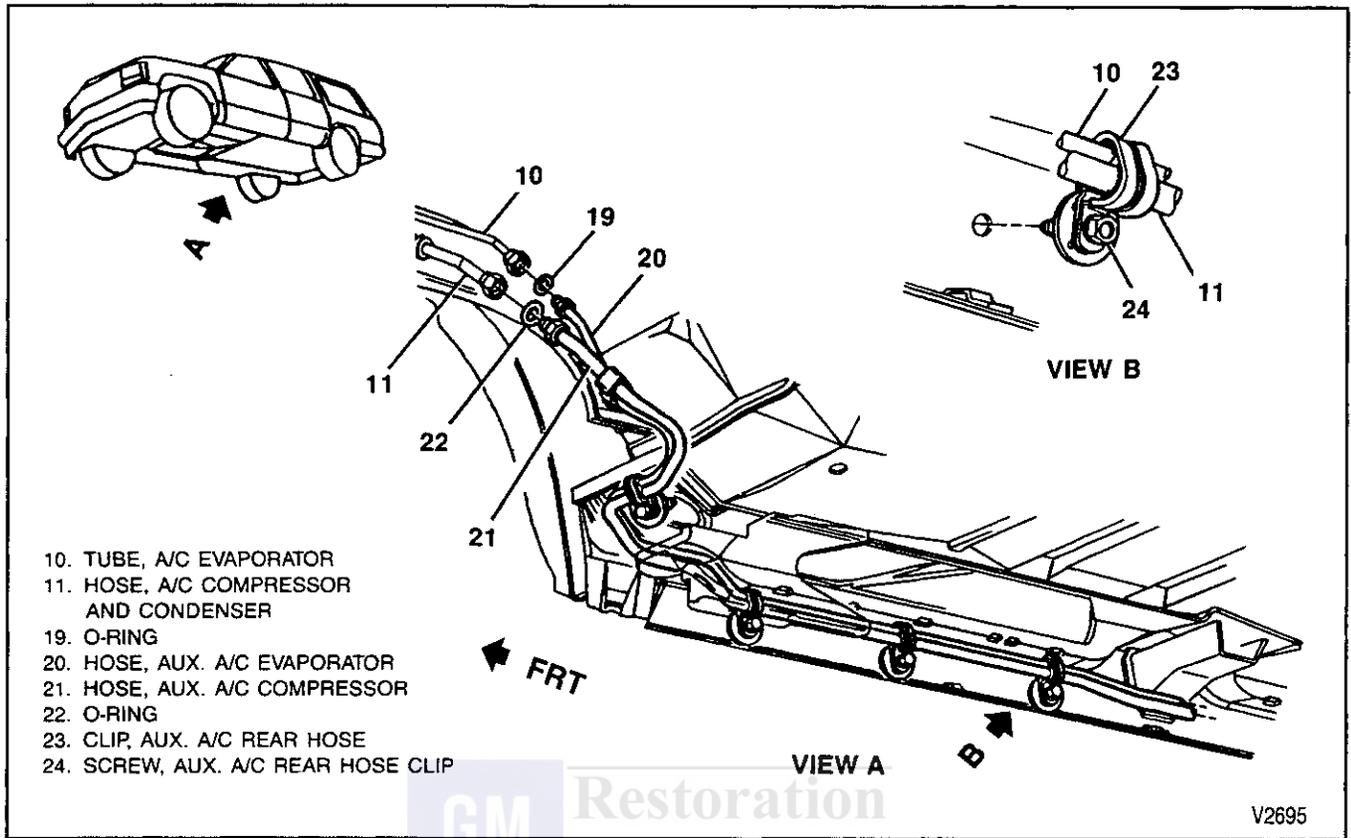

Figure 44—Auxiliary Compressor and Condenser Hose Routing
6. O-ring seal (22).
8. Auxiliary evaporator hose (20) from auxiliary evaporator (26) (figure 44).
9. O-ring seal (25).
10. Auxiliary compressor hose (21) from auxiliary evaporator (26) (figure 44).
11. O-ring seal (25).
12. Screws (24).
13. Hose clips (23).
14. Auxiliary evaporator hose (20).
15. Auxiliary compressor hose (21).
- Screws (24) to 6 N.m (53 lbs. in.).
5. New O-ring seal (25).
6. Auxiliary compressor hose (21) to auxiliary evaporator (26) (figure 44).
- Auxiliary compressor hose (21) to 32 N.m (24 lbs. ft.).
7. New O-ring seal (25).
8. Auxiliary evaporator hose (20) to auxiliary evaporator (26) (figure 44).